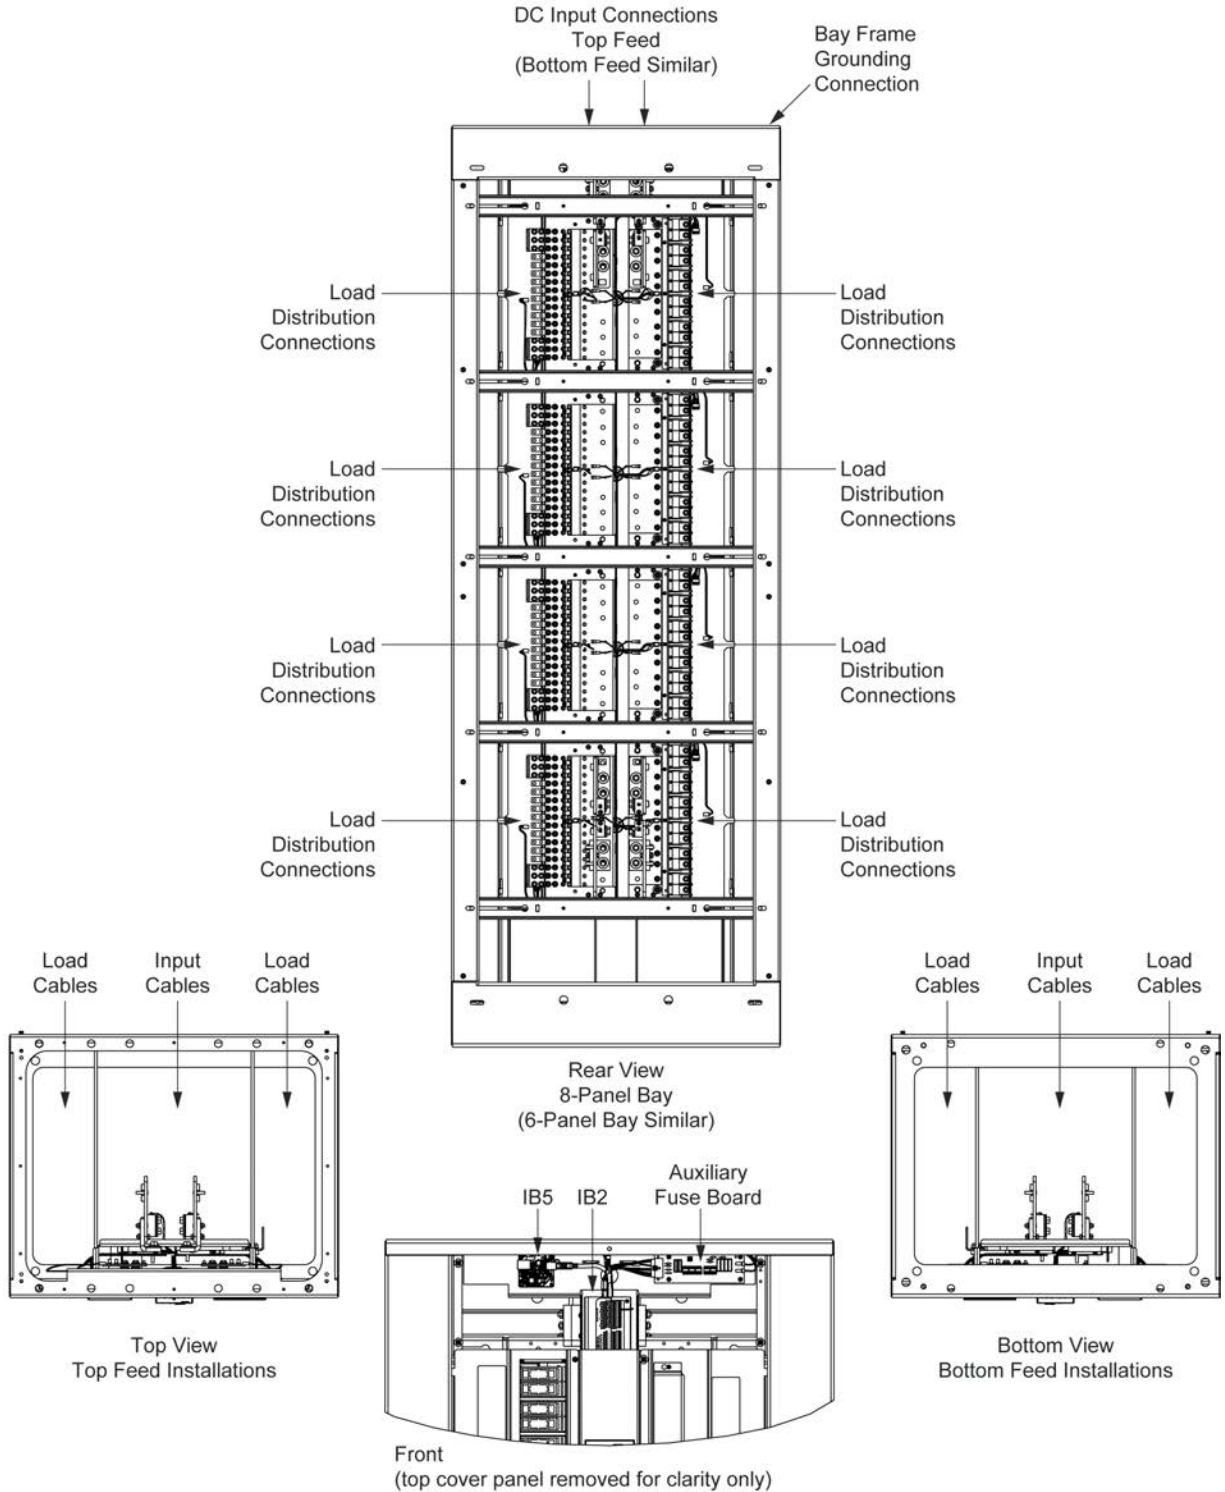
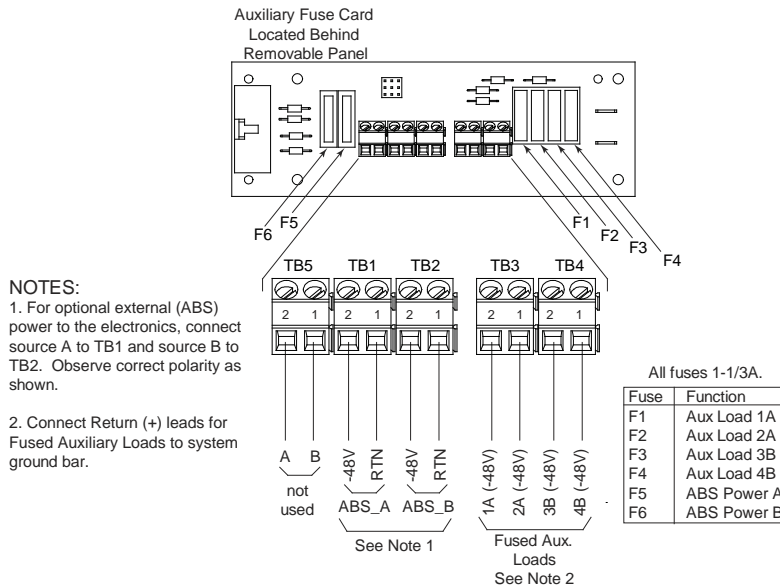
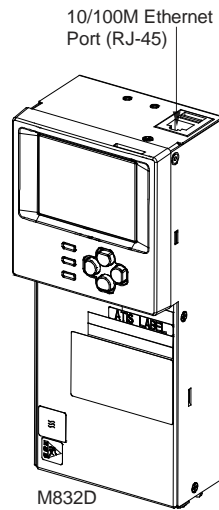
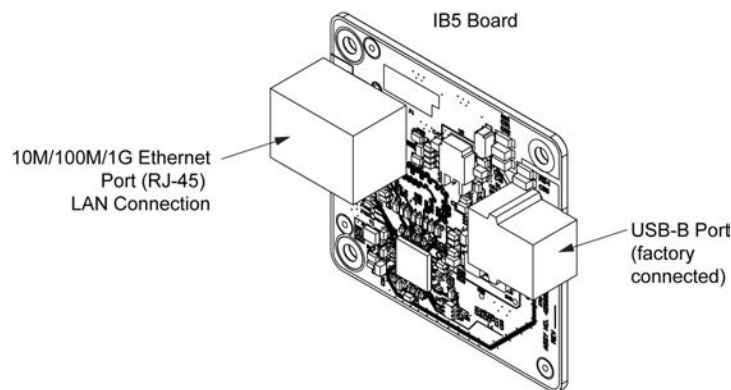

Figure 10
Figure 12
Figure 14
Figure 15
- ◆ Control and auxiliary load fuses are located on the fuseblock mounted at the top right of each bay. See Figure 10 and Figure 12.
The monitor unit provides a Web Interface via an Ethernet connection to a TCP/IP network. This interface can be accessed locally on a computer or remotely through a network. An Ethernet port is provided on the monitor unit's top panel (see Figure 14). A second Ethernet port is provided on the IB5 board (see Figure 10 and Figure 15). The Ethernet port located on the monitor unit's top panel can ONLY be used to connect a computer directly to the monitor unit. The Ethernet port located on the IB5 board can be used to connect the monitor unit to your Local Area Network (LAN).
An RJ-45 10BaseT jack is provided on the top panel of the monitor unit for connection to a computer for local access to the monitor unit's web pages (see Figure 14).
An RJ-45 10BaseT jack is provided on the IB5 board for connection into a customer's Local Area Network (LAN) for remote access to the monitor unit's web pages (see Figure 10 and Figure 15).